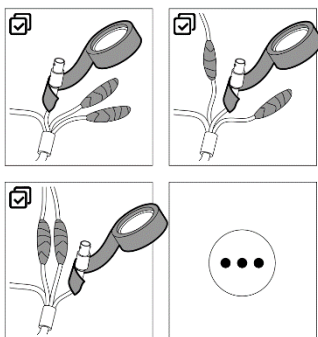

Figure 3-1 Waterproof Cable
1. Connect the camera with the TVI DVR and the monitor, as shown in figure 3-1.